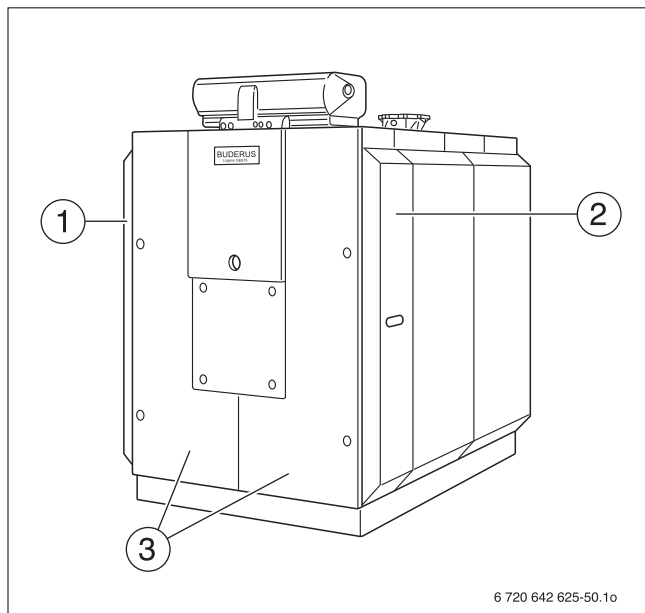

Fig. 59 Opening the boiler door
- ▶ Lift the side panels (with hand hole → Fig. 59, [2]) slightly and remove. Do not remove the front panels (burner door jacket → Fig. 59, [1 and 3]).